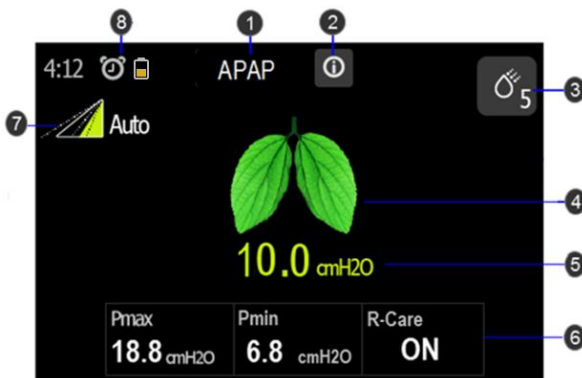

Figure2 Patient Therapy Interface
3. Press the Therapy On/Off key on top of the device to turn on airflow and begin therapy. The screen will display to patient therapy clean interface (see Figure 2).
When the therapy starts, the screen will switch to the Patient Therapy Interface, which displays the therapy parameters monitoring during therapy (See Figure2). The displayed parameters depend on the current System therapy mode.